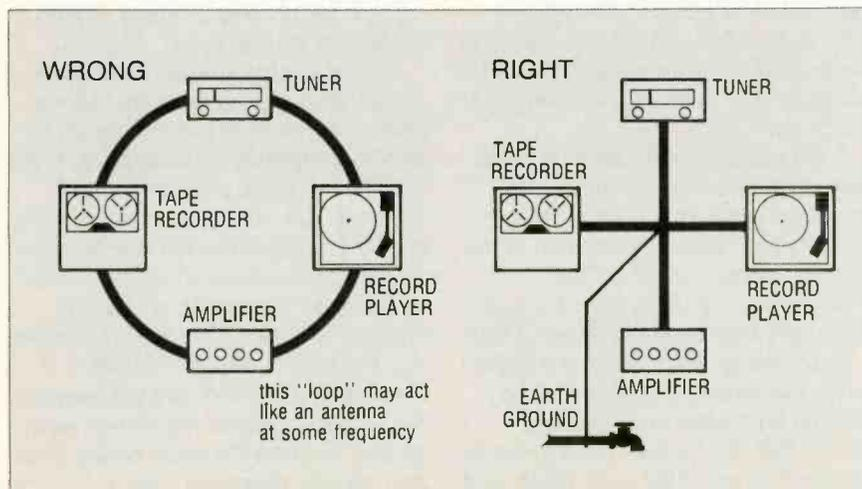

Fig. 5 Right and wrong ways to ground outboard peripheral equipment.
2. Ground all pieces of equipment in the system together (see Fig. 5 for right and wrong ways to ground equipment). See the cautionary note above.